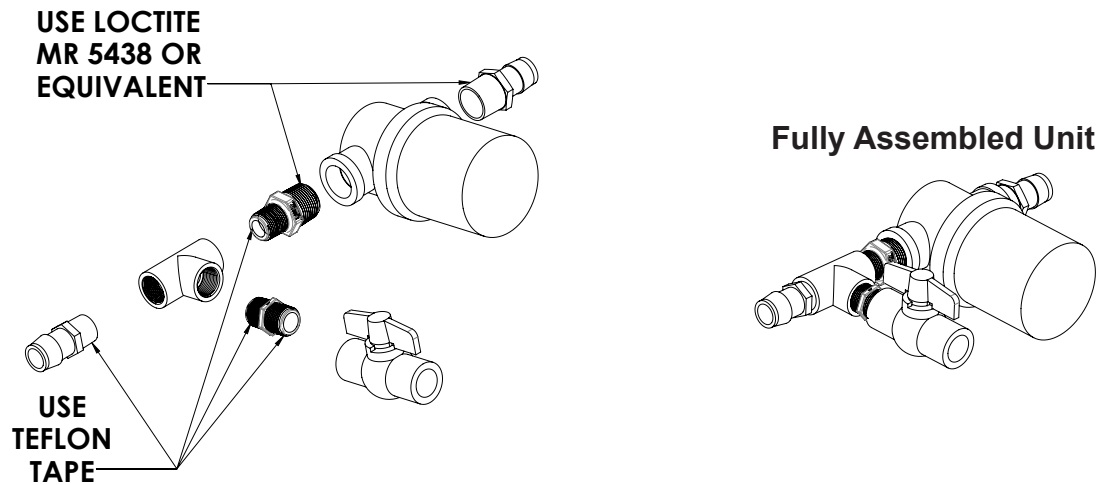

Figure 72. Drain Valve and Filter Assembly
7. Next assemble the drain valve and filter assembly (Figure 72). Make sure the arrow on the filter points to the pump.